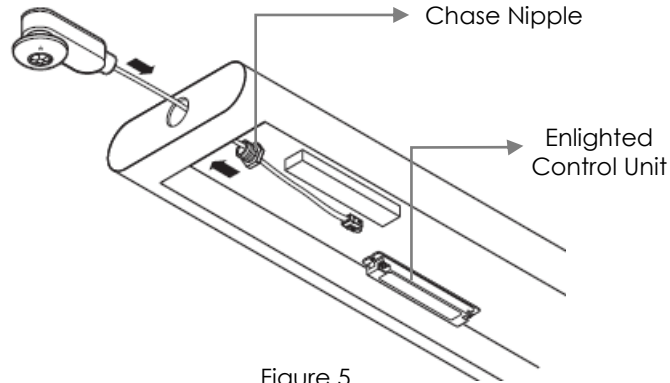

Figure 5
Step 6: Knock out a ½ inch hole on the end of the light fixture. Using the ½ inch chase nipple, connect the LB conduit to the fixture. See Figure 5.